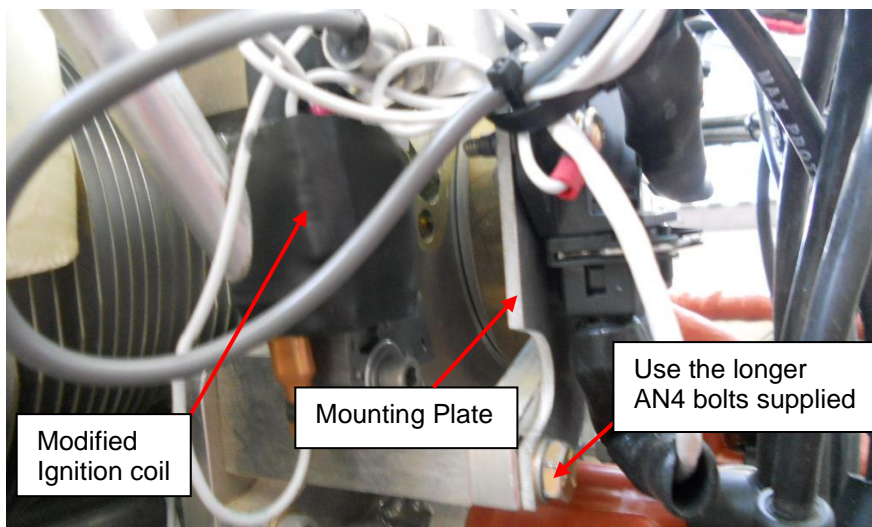
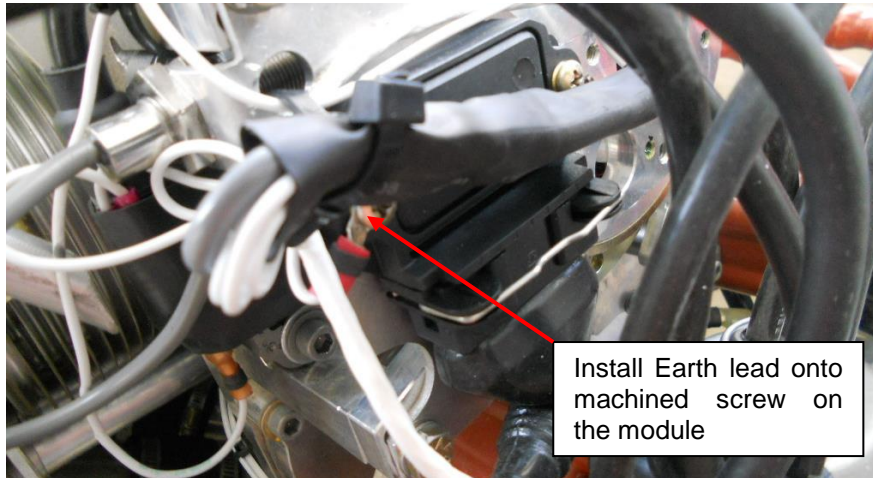

Figure 2 - Modified coil and mount plate installation
Figure 3 - Earth lead installation
- Install the mounting plate as shown in Figure 2 below. Use the supplied longer bolts to account for the thickness of the cold start ignition kit mounting plate. Ensure the module mounting screws are tightened securely (refer to the engine overhaul manual, document JEM0001, for appropriate torque settings). The ignition earth lead is connected via one of the machined screws that are used on the module (Figure 3).